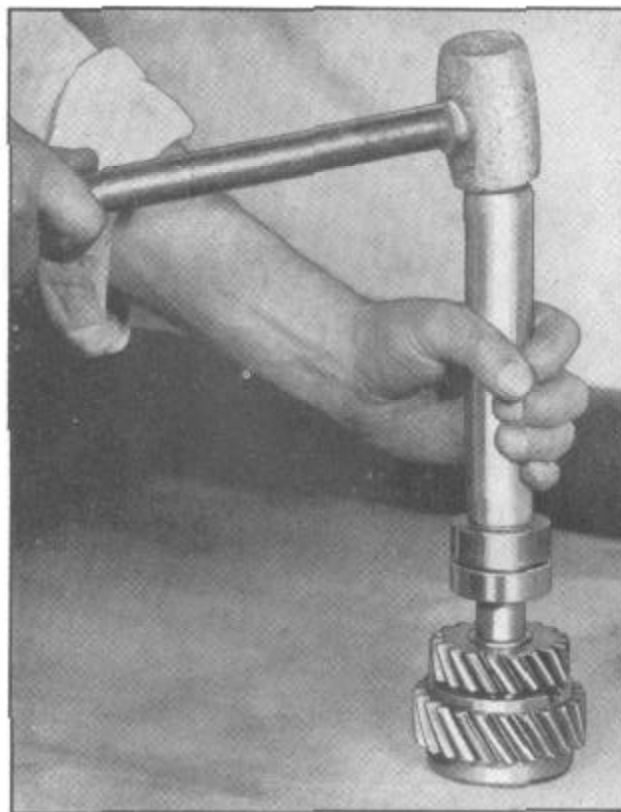

Figure 14--Installing Main Drive Gear Bearing Using Installing Tool J-779.
15. Install countershaft intermediate gear retainer (32) on countershaft using replacer J-781.
16. Install countershaft intermediate gear (30) on countershaft and press until gear hub is over the retainer (32). Install second retainer (65) on countershaft using replacer J-781.
17. Place countershaft drive gear (29) and countershaft front thrust washer (25) in their correct relative positions over the front end of the countershaft.
19. Shift low and reverse shifter into reverse position moving to the front of the case and entering countershaft low and reverse gear (31) into low and reverse shifter (49).
20. Align countershaft drive gear so that countershaft splines are entered in the hub then drive countershaft forward until the drive gear hub is over the retainer (65).
21. Install spacer (26) on rear end of countershaft with oil groove facing to the rear. Place bronze thrust washer (28) on the front end of the rear bushing cap.
23. Install reverse rotating shaft stationary gear assembly and gear (36) in transmission case entering the sliding gear collar on the reverse gear shifter (38).
24. Install the stationary shaft (33) into the cap (37) with a dowel pin, then install in the case with the gasket and secure with the cap screws.
25. Install main drive gear ball bearing (8) on main drive gear (6) using the bearing installing tool J-779 as shown in Figure 14.